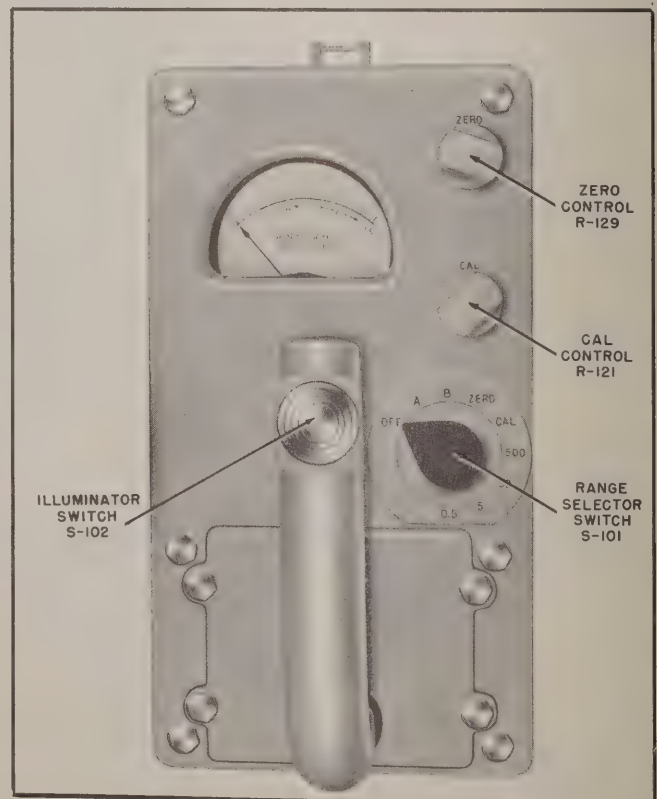

Figure 4-1. Radiacmeter
The operating controls for Radiacmeter IM-75/PDR-18A are shown in figure 4-1.
a. To place Radiacmeter IM-75/PDR-18A in operation, refer to figure 4-1 and turn range selector switch S-101 from the OFF to the A position. The meter needle should be deflected to the right of the marker A on the meter scale. Next, turn range selector switch S-101 to the B position. The meter needle should be deflected to the right of the B marker on the meter face. Turn range selector switch S-101 to the ZERO position and adjust ZERO control R-129 for zero deflection on the scale of microammeter M-101. Turn range selector switch S-101 to the CAL position and adjust CAL control R-121 until full scale deflection is obtained.
a. Refer to figure 4-1 for the locations of the controls used in the following procedure:
(1) Place range selector switch S-101 in its A position. Meter M-101 should be deflected past marker A.
(2) Place range selector switch S-101 in its B position. Meter M-101 should be deflected past marker B.
(3) Place range selector switch S-101 in its ZERO position and adjust ZERO control R-129 for zero deflection on meter M-101.
(4) Place selector switch S-101 in its CAL position and adjust CAL control R-121 for full-scale deflection on meter M-101.
(5) Turn selector switch S-101 to the desired range (500, 50, 5, and 0.5) and measure the radiation intensity.